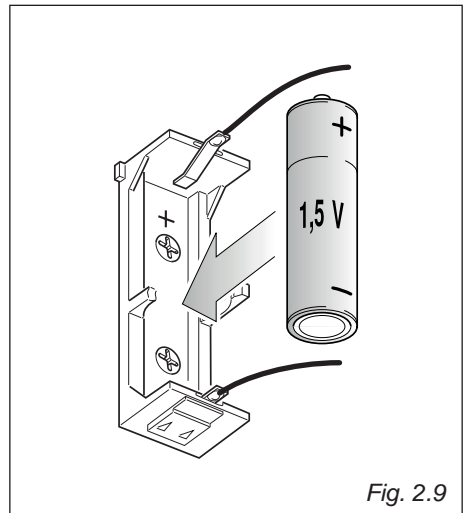

Fig. 2.9
- Insert a type AA battery (1.5 Volt) into the battery holder (fig. 2.9).
- Check for correct polarity (fig. 2.9).